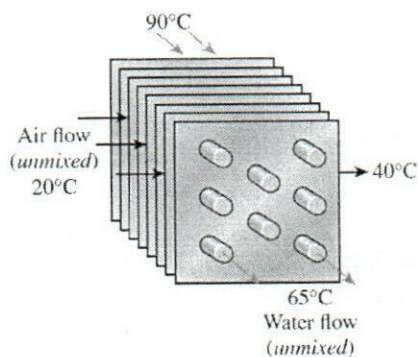

Figure Q-5
- Q-5 A test is conducted to determine the overall heat transfer coefficient in an automotive radiator that is a compact cross-flow water-to-air heat exchanger with both fluids (air and water) unmixed (Figure Q-5). The radiator has 40 tubes of internal diameter 0.5 cm and length 65 cm in a closely spaced plate-finned matrix. Hot water enters the tubes at 90°C at a rate of 0.6 kg/s and leaves at 65°C . Air flows across the radiator through the inter fin spaces and is heated from 20°C to 40°C .